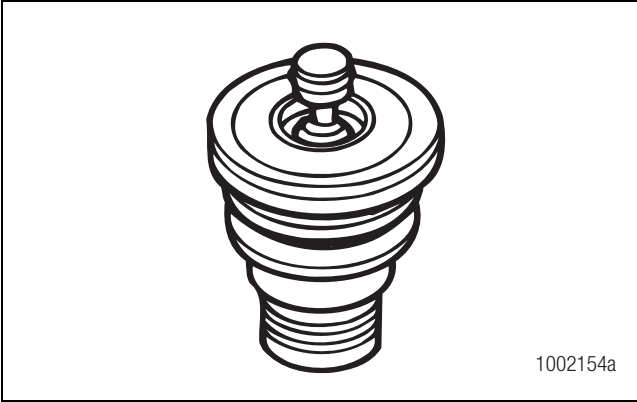

Figure 1.17
**Purge Valve:** A valve located on the bottom of the air dryer base that remains open during a compressor unload cycle. It allows collected moisture, condensation, and contamination to be expelled from the air dryer during a purge cycle. Figure 1.17.